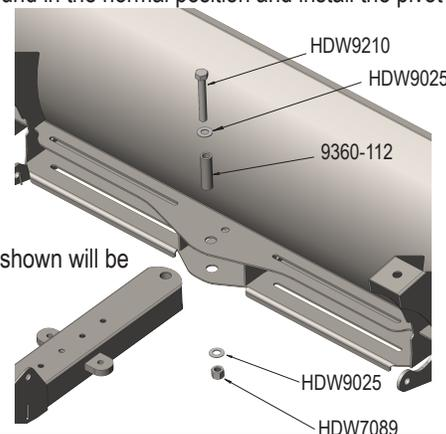

Figure 1 - Note: Hardware shown will be packaged with the blade!
- 2** The push tube will slide into the center of the brackets on the back of the blade. Bolt the push tube to the blade by first sliding the spacer (#9360-112) through the blade and push tube. Secure with the 1/2" x 3-1/2" hex bolt (#HDW9210), 1/2" flat washers (#HDW9025), and 1/2" nylock nut (#HDW7089). **See figure 1.** It may be easier to position the blade face down on the ground and install the push tube vertically into the blade.